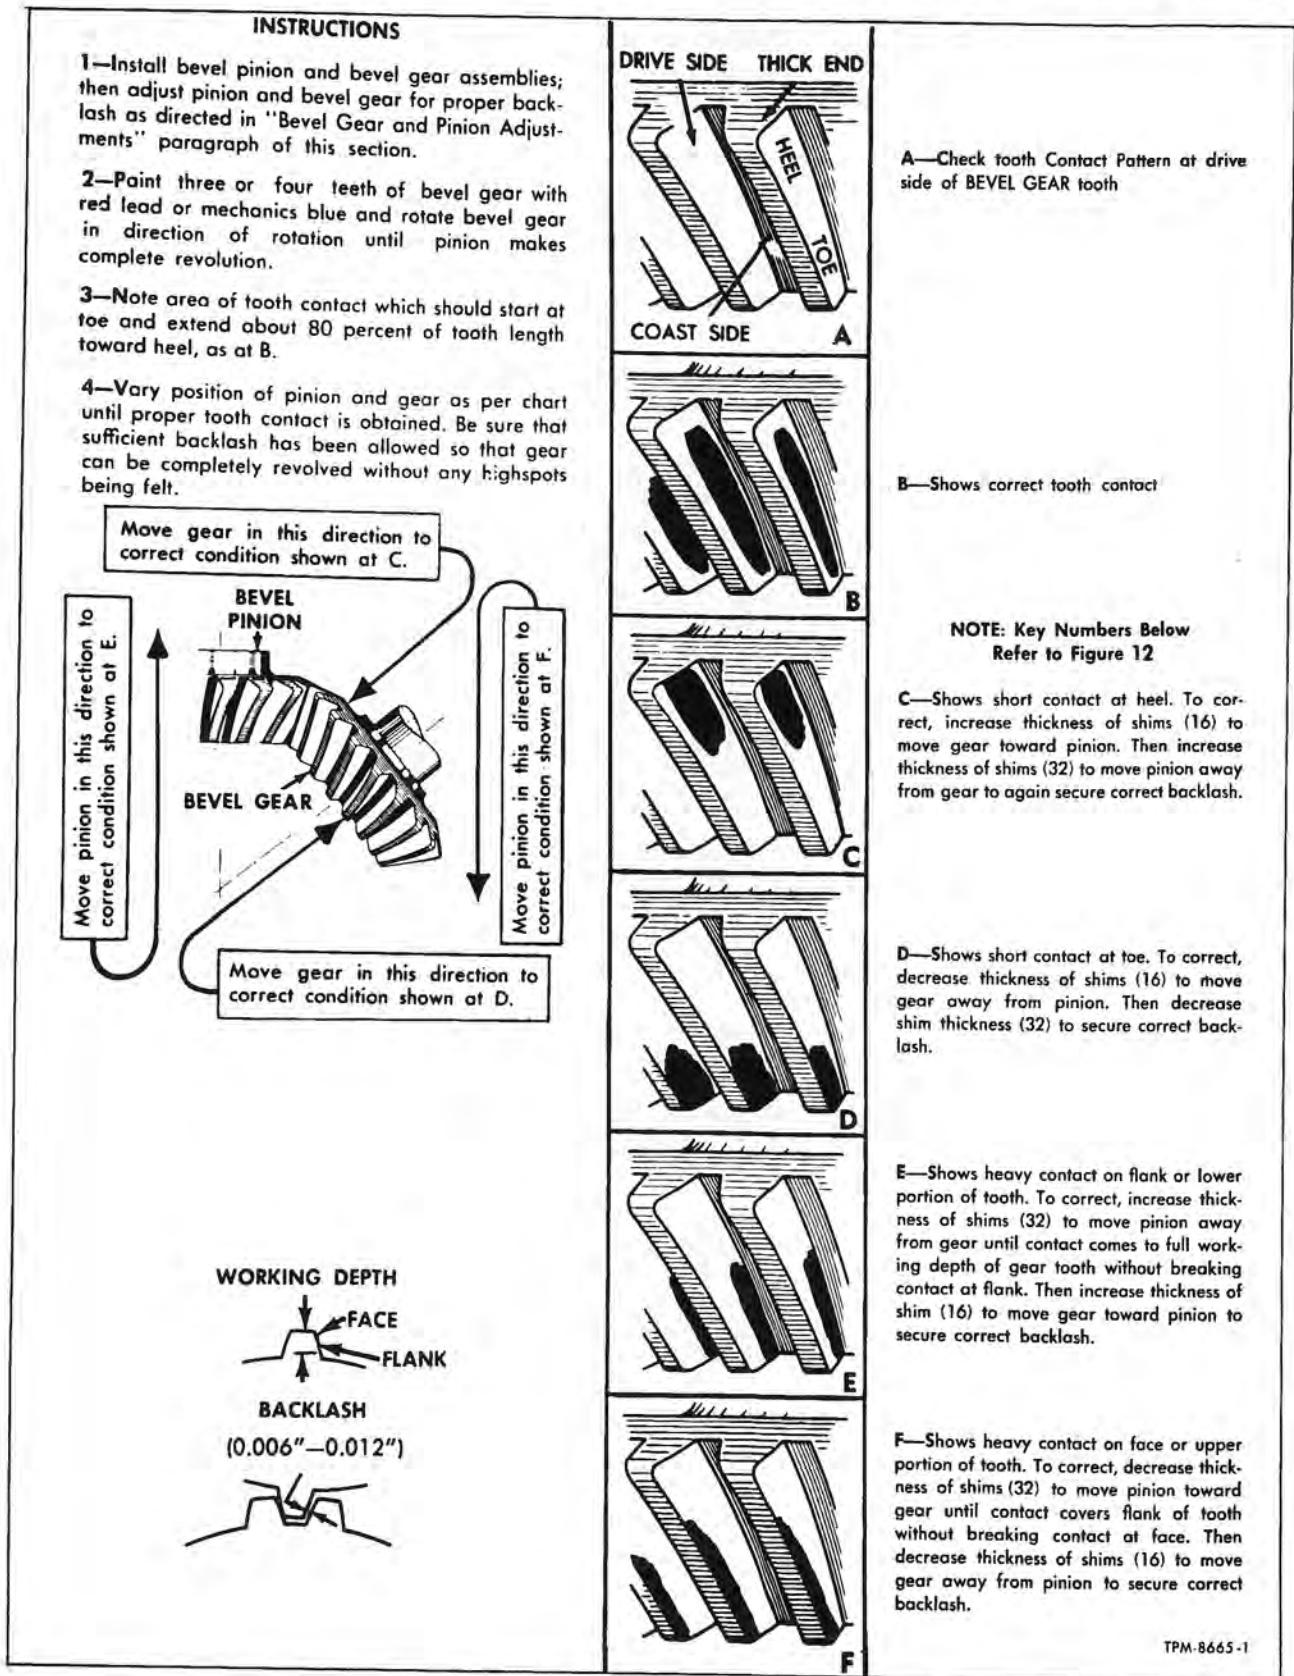

Figure 17—Gear Tooth Contact Chart
4. Check Gear Tooth Contact. NOTE: The outside shims (gaskets) in shim pack (16, fig. 12) are aluminum. These should be replaced with new parts when assembling transmission. Remove square head filler plug at top of housing above bevel gears. Use a stiff brush and apply a thin even coat of red lead on bevel gear teeth. Rotate bevel pinion shaft in same direction as in normal operation, while applying tension at propeller shaft flange. After rotating gears to produce a clear contact impression at drive side of bevel gear teeth (fig. 17), observe contact area through filler plug hole. Use flashlight to illuminate gears.
a. Tooth contact impression should start at toe of tooth and extend back about 80% of tooth length toward heel on drive side of tooth. Contact should be distributed evenly over flank of tooth indicating center of contact below pitch line. Refer to diagrams "A" and "B" in figure 17.
b. If tooth contact is short and too far out on heel of tooth (diagram "C" fig. 17), increase thickness of shims (16) between bearing retainer (17) and housing (27), moving gear (12) toward pinion (1). Restore backlash by increasing shims (32) between bearing retainer (3) and housing (27).
c. If tooth contact extends back from toe appreciably less than 80% of tooth length (diagram "D" fig. 17), move gear (12) away from pinion (1) by decreasing shims (16). Restore backlash by decreasing shims (32).
d. If contact is low on flank of tooth (see diagram "E" fig. 17), move pinion (1) away from gear (12) by increasing shims (32). Restore backlash by increasing shims (16).
e. If contact is high on face of tooth (diagram "F" fig. 17), move pinion (1) toward gear (12) by decreasing shims (32). Restore backlash by decreasing shims (16).
5. After tooth contact and backlash have been adjusted, install bearing cap assembly (25) using new gasket (18). Install oil filter assembly (23) using new gasket.